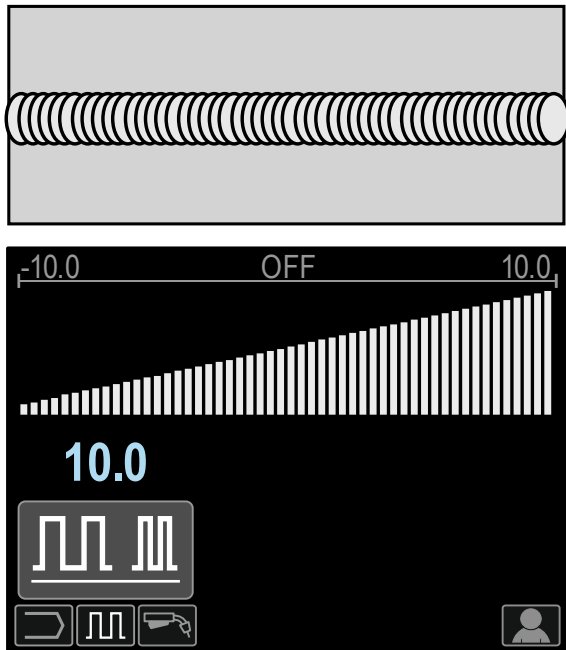

Figure 83
- Frequency greater than 0.0 – Narrow weld and ripple spacing, fast travel speed. Figure 83 shows the spacing weld when the frequency is "+10".